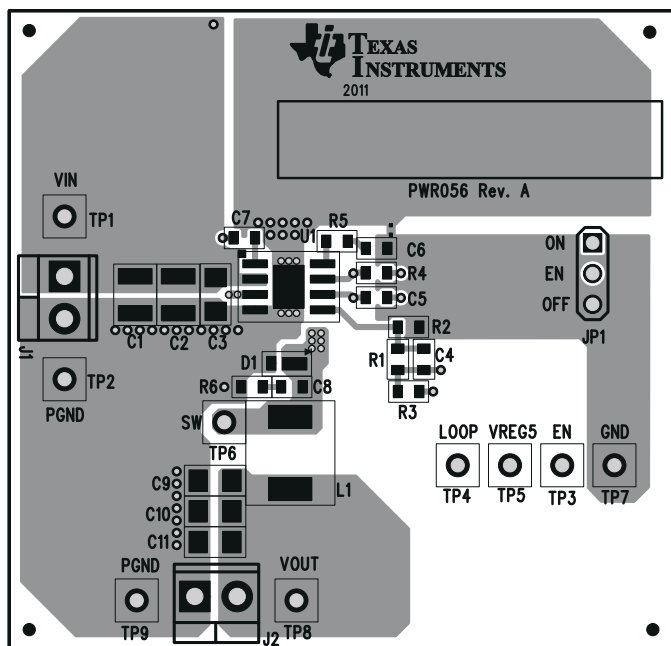
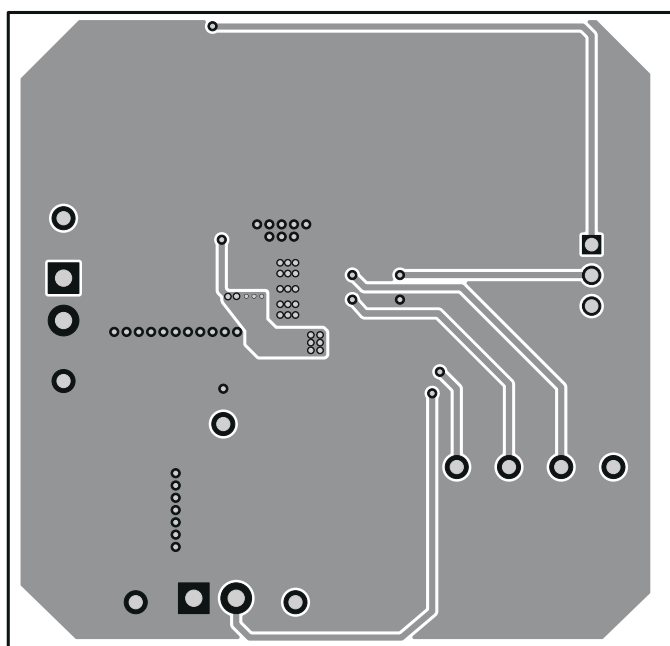

Figure 5-1. Top Assembly
Figure 5-5. Bottom Layer
The board layout for the TPS54239EEVM-056 is shown in Figure 5-1 through Figure 5-5. The top layer contains the main power traces for VIN, VO, and ground. Also on the top layer are connections for the pins of the TPS54239E and a large area filled with ground. Many of the signal traces also are located on the top side. The input decoupling capacitors are located as close to the IC as possible. The input and output connectors, test points, and all of the components are located on the top side. An analog ground (GND) area is provided on the top side. Analog ground (GND) and power ground (PGND) are connected at a single point on the top layer near C6. The two internal layers are completely dedicated to power ground planes. The bottom layer is primarily power ground. A copper pour area on the bottom layer is used to connect the switching node (SW) to the output inductor and the boost capacitor. Traces also connect enable control jumper, EN, VREG5, and LOOP test points, and the feedback trace from VOUT to the voltage setpoint divider network.